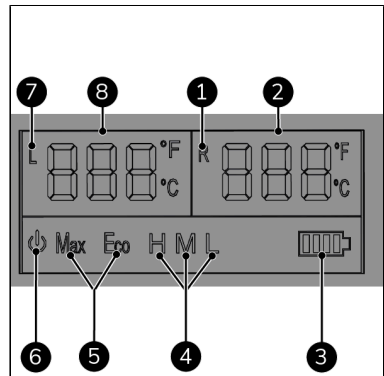

Figure 15.
- Temperature shows the set or current temperature in the cooling compartment (Figure 15, pos. 8) or freezing compartment (Figure 15, pos. 2) (Celsius or Fahrenheit).
- Battery (Figure 15, pos. 3) shows the status of the vehicle battery.
- Battery protection (Figure 15, pos. 4) shows the currently selected battery protection mode (high, medium or low).
- Cooling capacity (Figure 15, pos. 5) shows the cooling capacity (MAX or ECO).
- ON/OFF (Figure 15, pos. 6) shows if the device is on or off.
- L (Figure 15, pos. 7) and/or R (Figure 15, pos. 1) are flashing; the unit is cooling.
When the device is connected to the power supply, the ON/OFF indication light (Figure 15, pos. 6) is on.